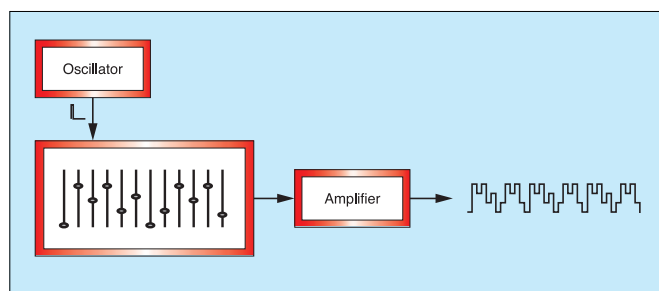

Figure 11: Using the sequencer as a more complex wave generator.
► duty cycle of 1:3. But what about Figure 11? This isn't a waveform that you'll see on a conventional analogue oscillator. It is, however, one that you'll see generated by (hush please... sacrilege alert!) a digital oscillator.